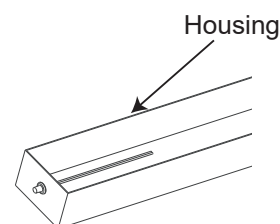

Figure 1-2
2. Wire the test button to EM inverter Indicator & Test button wires (Figure 1-2).